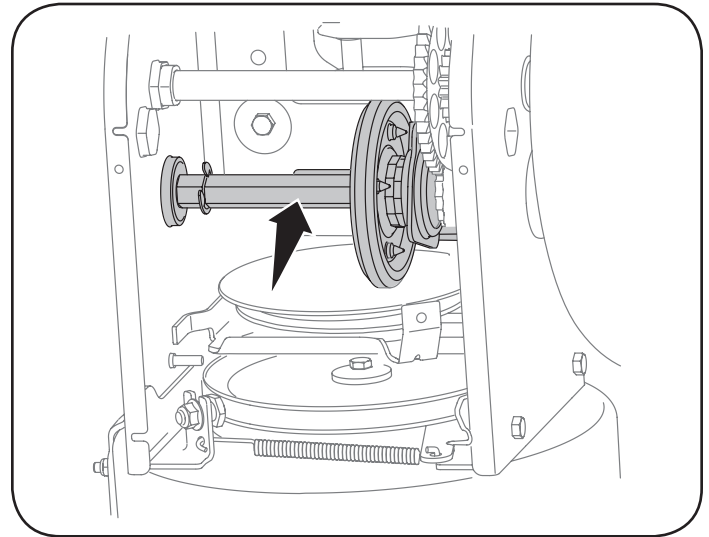

Figure 20
- Apply a light coating of anti-seize to the hex shaft. See Figure 20.